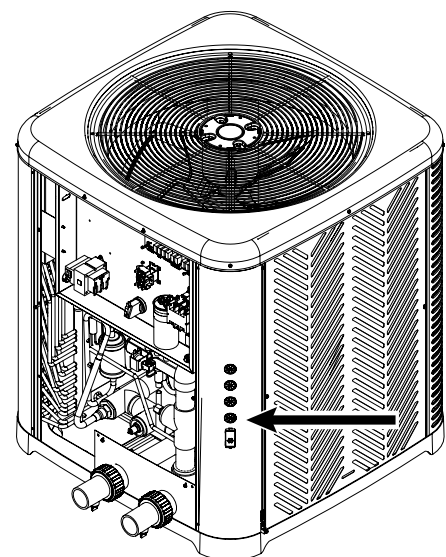

Figure 130. Use the Grommets
5. Use the grommet(s) to run the control and/or power wires from the external device(s) to the heater control box. See Figure 130.